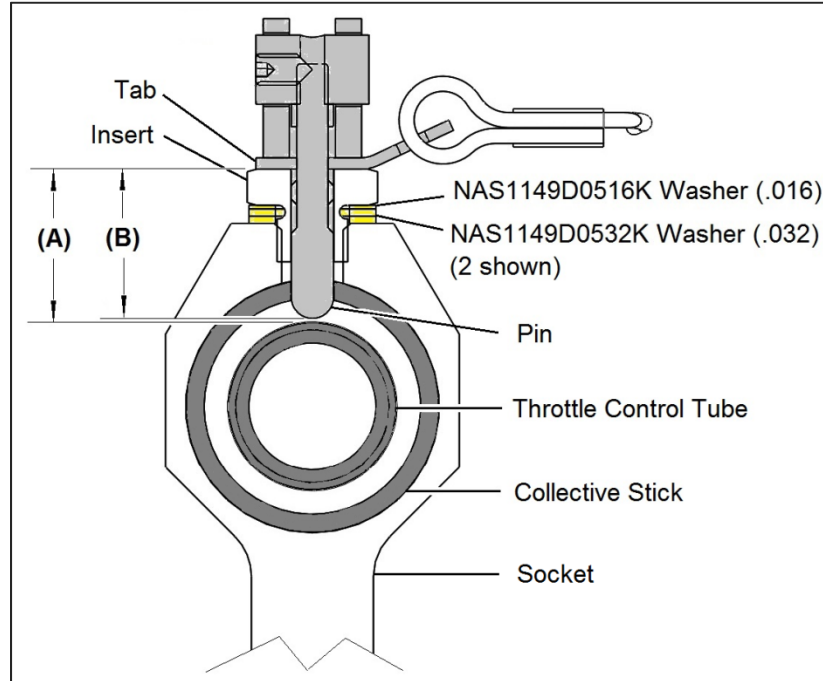

Figure 4. Washer Installation
6.13 Check clearance between the retention pin and the throttle control tube (Figure 4).